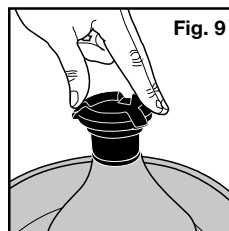

Fig. 9
1. Select one of the five interchangeable spout rings based upon your personal preference or your pet's. Place the chosen spout ring on top of filter housing cap and gently press down to secure in place (**Fig. 9**).